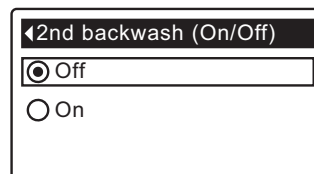

FIG. 73
- 8b. **Second backwash (On/Off):** If the desired option already has a black dot next to it (See Figure 73), go to Step 9. Otherwise, press the DOWN (▼) or UP (▲) buttons to scroll to the other option, then press SELECT (O) to choose it. Setting this feature On adds a second backwash and rinse at the beginning of the recharge cycle. Default is Off. Set this feature On if your water supply contains a lot of sediment or iron.